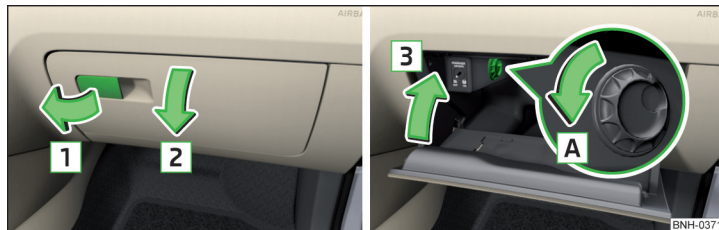

Fig. 71 Open storage compartment / close storage compartment and open air supply
- Pull the handle to position **1** » Fig. 71 in the direction of the arrow.
- Screw in the filler cap in the direction of arrow **3** until it audibly clicks into place » Fig. 71.
- By turning the rotary switch in the direction of arrow **A** until it stops, the air supply is **opened** » Fig. 71.